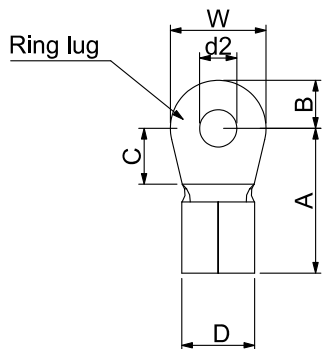
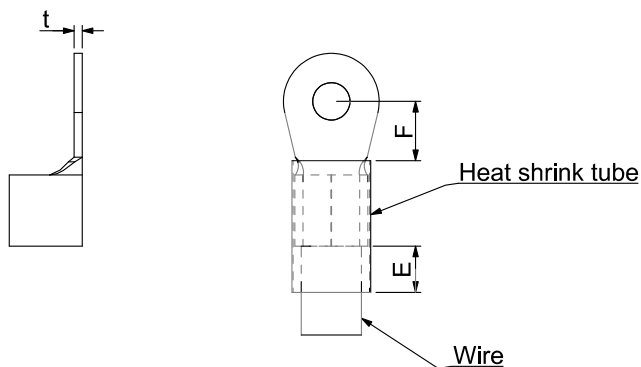

Figure 5-7
Figure 5-8
- Use the specified ring lug for main circuit terminal wiring. See Figure 5-7 and Figure 5-8 for ring lug specifications. For other types of wiring, use the wires that comply with the local regulations.
- After crimping the wire to the ring lug (must be UL and CSA approved R/C (YDPU2)), then install heat shrink tubing rated at a minimum of 600 VAC insulation over the live part. Refer to Figure 5-8 below.